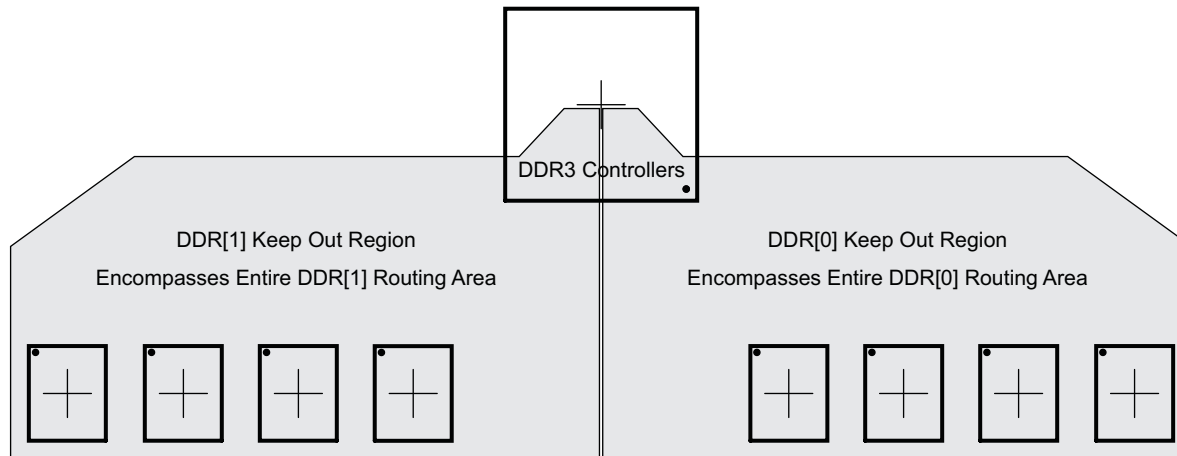

Figure 8-57. DDR3 Keepout Region
- (2) Measurements from center of processor to center of DDR3 device.
- (3) Minimizing X1 and Y improves timing margins.
- (4) w is defined as the signal trace width.
- (5) Non-DDR3 signals allowed within DDR3 keepout region provided they are separated from DDR3 routing layers by a ground plane.
- (6) If a device has more than one DDR controller, the signals from the other controller(s) are considered non-DDR3 and should be separated by this specification.
The region of the PCB used for DDR3 circuitry must be isolated from other signals. The DDR3 keepout region is defined for this purpose and is shown in Figure 8-57. The size of this region varies with the placement and DDR routing. Additional clearances required for the keepout region are shown in Table 8-70. Non-DDR3 signals should not be routed on the DDR signal layers within the DDR3 keepout region. Non-DDR3 signals may be routed in the region, provided they are routed on layers separated from the DDR signal layers by a ground layer. No breaks should be allowed in the reference ground layers in this region. In addition, the 1.5-V DDR3 power plane should cover the entire keepout region. Also note that if there is more than one DDR controller, the signals from each controller need to be separated from each other by the specification in Table 8-70, item 5. Each DDR controller should have its own DDR keepout region.
Figure 8-57 is an example of a processor with two DDR controllers. Processors with a single DDR controller will have only one DDR keepout region. Each DDR controller should have its own keepout region.